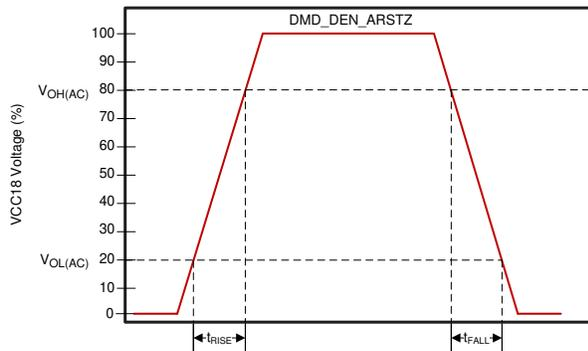

Figure 6-3. DMD_DEN_ARSTZ Slew Rate
- (1) $V_{OH(AC)}$ maximum applies to overshoot. When the DMD_LS_WDATA and DMD_LS_CLK lines include a proper 43-Ω series termination resistor, the DMD operates within the LPSDR input AC specifications.
- (2) $V_{OL(AC)}$ minimum applies to undershoot. When the DMD_LS_WDATA and DMD_LS_CLK lines include a proper 43-Ω series termination resistor, the DMD operates within the LPSDR input AC specifications.
- (3) See Figure 6-4 for DMD_LS_CLK, and DMD_LS_WDATA rise and fall times. See Figure 6-3 for DMD_DEN_ARSTZ rise and fall times.